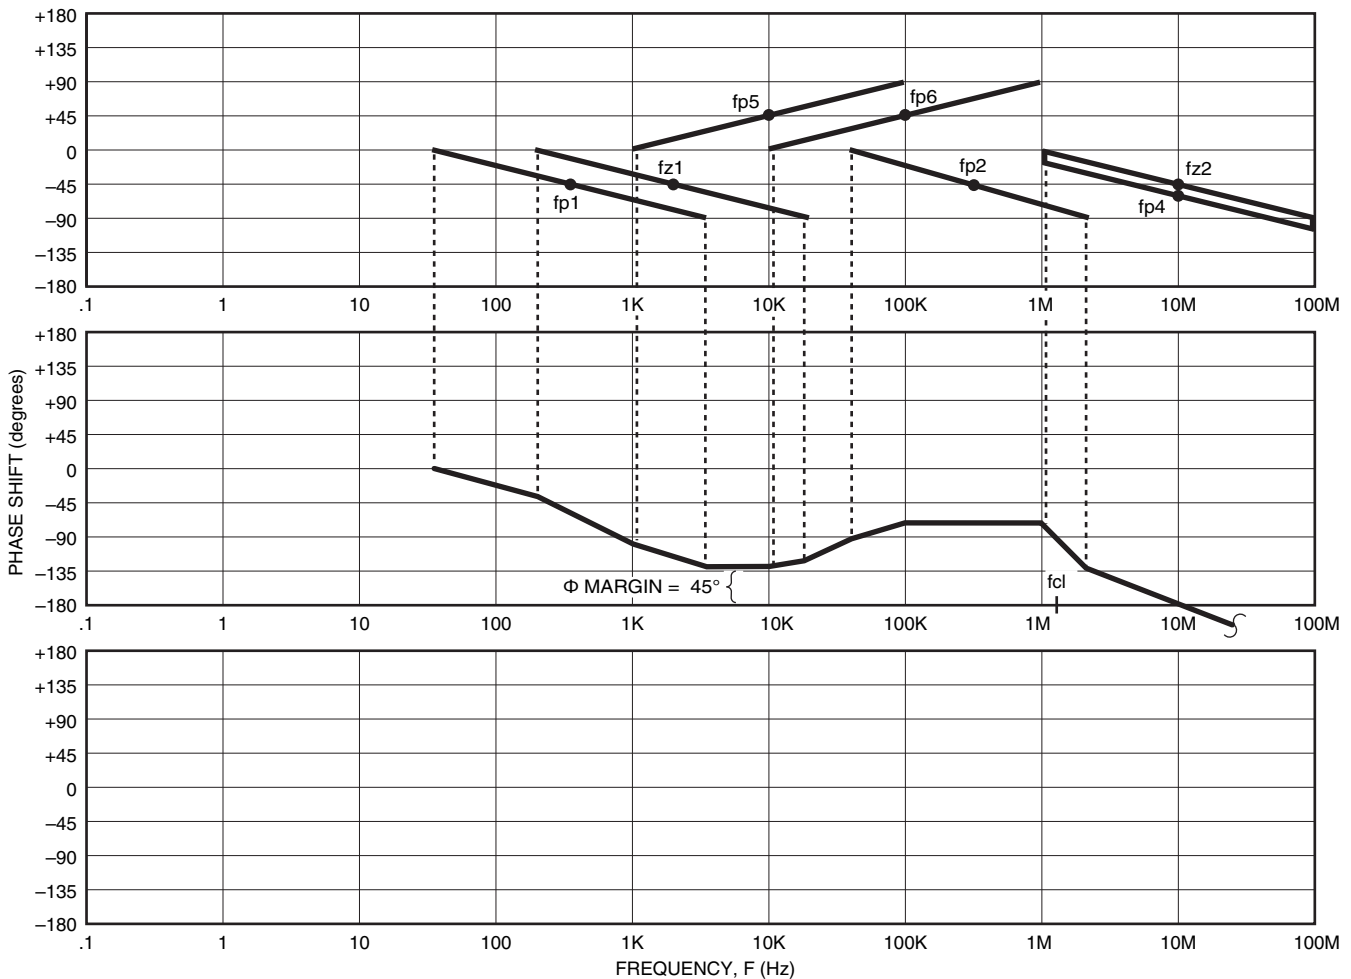

FIGURE 6. OPEN LOOP PHASE CHECK FOR STABILITY (PA85 PIEZO TRANSDUCER DRIVE)
STEP 6: Plot open loop phase using information from magnitude plot: Figure 6 is the open loop phase plot for our PA85 drive circuit.
A review of Figure 6 shows graphical addition of the contributions from all poles and zeros to yield a net open loop phase plot. The phase margin from DC to f_{cl} is never less than 45 degrees which implies good stability for this circuit.